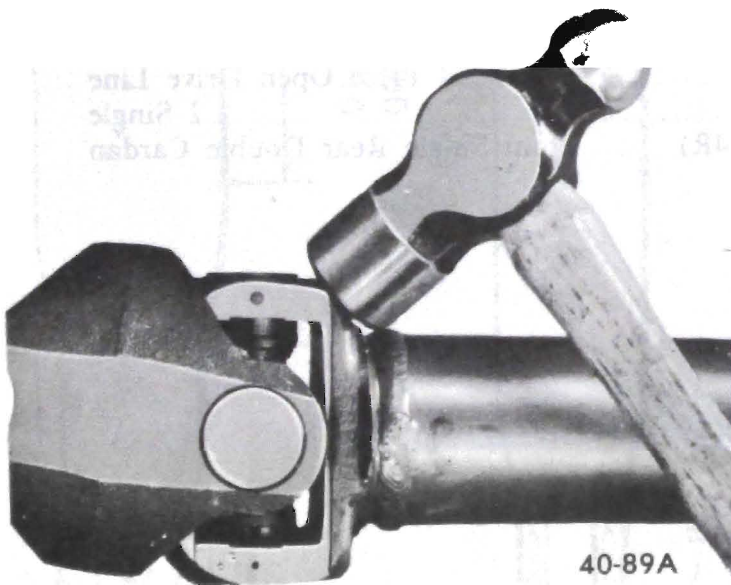

Figure 40-73 Seating Snap Ring
6. Continue to press until the opposite retaining ring can be snapped into place. If difficulty is encountered, strike the yoke sharply with a hammer to aid in seating the rings. See Figure 40-73.